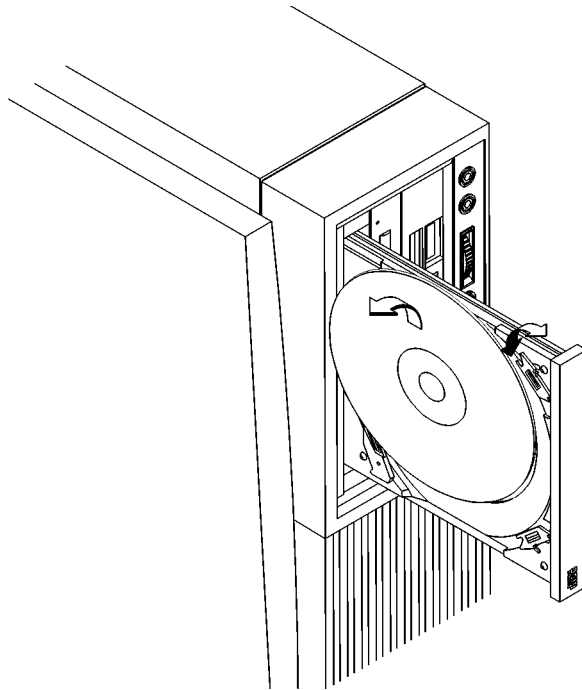

Figure 13
- 2 Press down gently against the spring tension of disc holders A and B and swing the top of the disc away from disc holder C as shown in Figure 13.